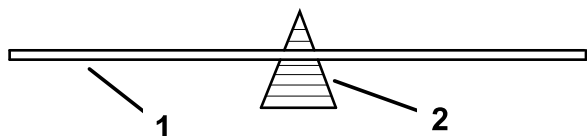

Figure 40
2. For straight blades only, check the balance of the blade by putting it on a blade balancer (Figure 40).